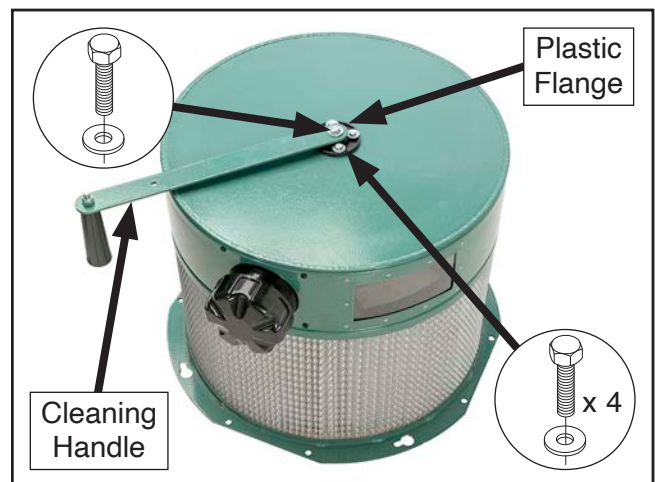

Figure 59. Cleaning handle attached to filter assembly.
11. Turn filter assembly upside down, then attach plastic flange to bottom of filter assembly with fasteners removed in **Step 8** (see **Figure 59**).
12. Attach filter cleaning handle to filter assembly base with fasteners removed in **Step 7** (see **Figure 59**). Slot in cleaning handle must fit over end of rotation shaft.